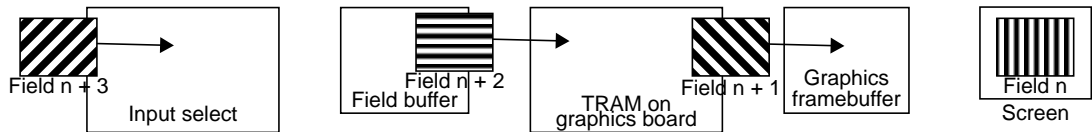

Figure 9-4 Video Delay Through Graphics Framebuffer
4. During the video field time for field $n + 3$, field n is displayed on the screen, as diagrammed in Figure 9-4.